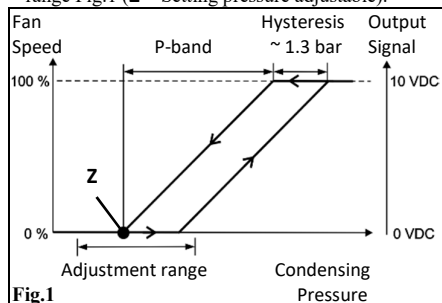

Fig.1
- FSE are factory set to a specific pressure at which output voltage is 0V (point Z in Fig.1). If adjustment is needed, refer to instructions for proper procedure. Improper adjustment may result in system damage or failure.
- The Setting Pressure is adjustable within Adjustment range Fig.1 (Z = Setting pressure adjustable).